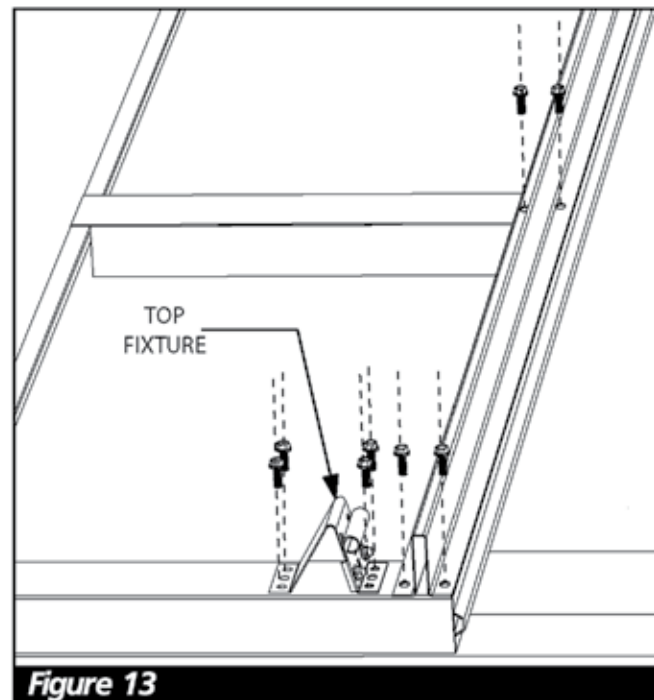

Figure 13
**STEP 14A: TOP SECTION** Lay top section across saw horses and remove the protective film. If strut is required, position it at the very top of the section and fasten according to instructions in step 6. (Fig. 13) Position top fixture directly below strut with the adjusting bolts facing up. Attach to section with 1/4" x 3/4" self tappers. Loosen the two 1/4" nuts on each top fixture so that the roller carrier can slide in and out for later adjustment.